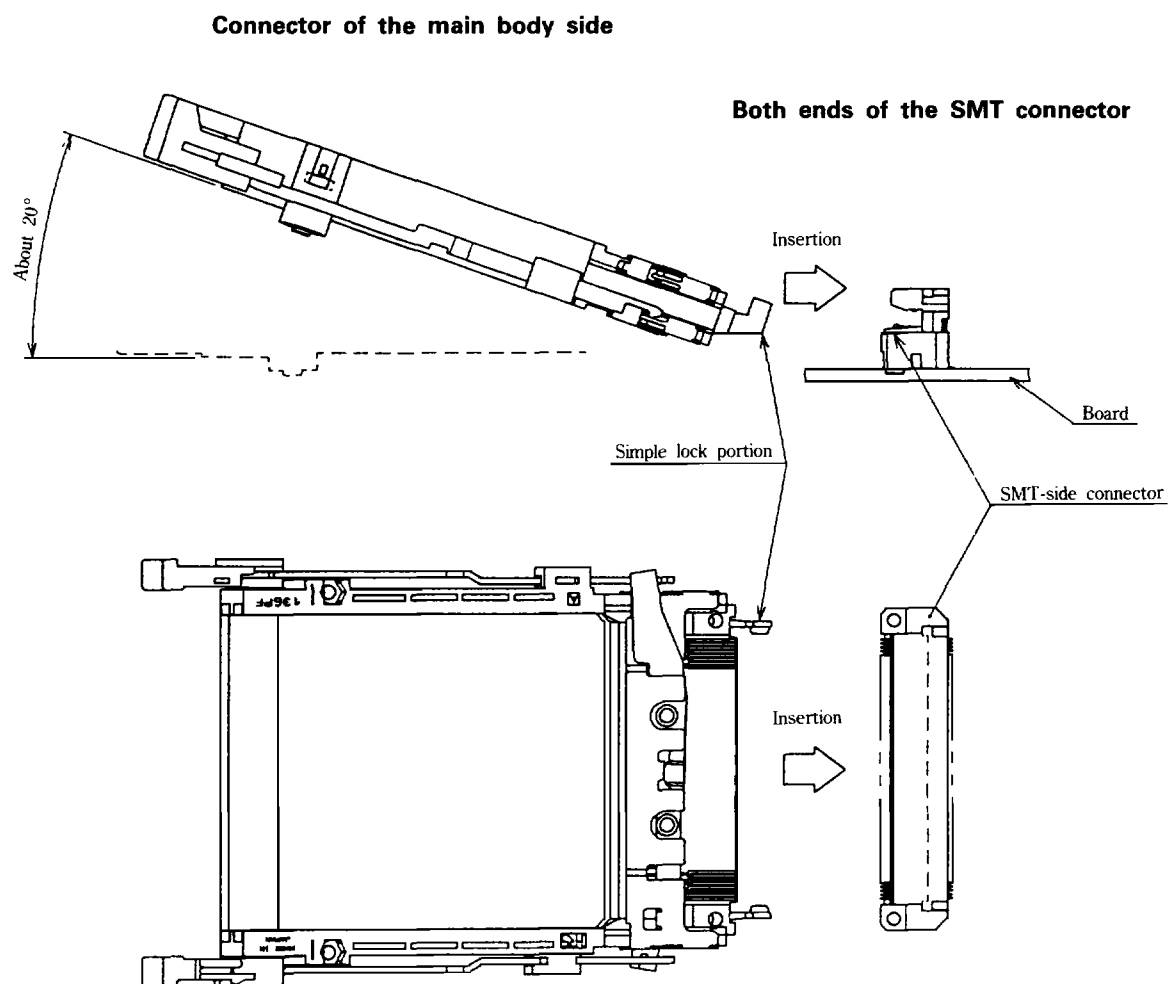

Figure 2-1
2. Insert the connector of the main body side to the connector of the SMT side on an angle of about 20° until it reaches the very back. **(See Figures 2-1 and 2-2.)**